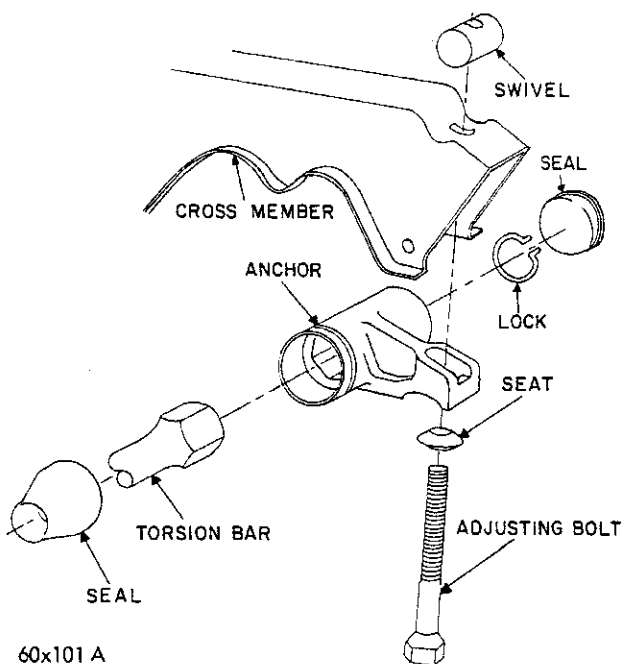

Fig. 7—Torsion Bar Rear Support Assembly
(3) Slide the new balloon seal over the torsion bar (cupped side toward rear anchor).
(4) Apply a liberal coating of chassis lubricant around each end of the torsion bar. The rear end of the torsion bar should be coated equal to the depth of the anchor hub socket.
(5) Install the torsion bar (Fig. 7).
(6) Turn the torsion bar until the anchor end is positioned approximately 120 degrees (eight o'clock or four o'clock position) down from the frame.
(7) Engage the front end of the bar in the hex opening of the lower control arm. If the anchor end is not in the position just described when installing the torsion bar, it will be impossible to adjust the front suspension to the correct height.
(8) Before installing the lock ring, center the bar so that full contact is obtained at anchor and arm shaft. Install the lock ring, making sure it is seated in its groove.
(9) Pack the annular opening in the rear anchor completely full of multi-purpose lubricant. Position the lip of the seal in the groove in the anchor hub. Install the plastic seal into the rear end of the torsion bar anchor.
(10) Slide the adjusting bolt swivel in position on the frame. Hold in position while installing the new adjusting bolt and seat. Tighten the bolt into a new swivel until approximately 1 inch of threads are showing out of the swivel. This is an approximate setting and is to be used only as a starting point when adjusting for correct height. This setting is also necessary to place a load on the torsion bar before lowering the vehicle to the floor.